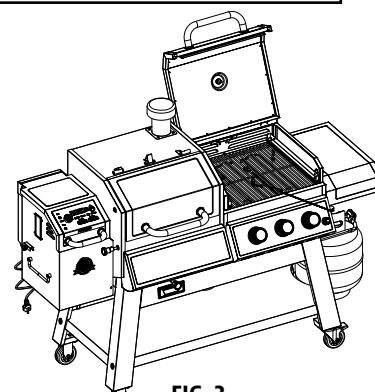

FIG. 3
8. If igniter does not light burner, use a lit match secured with the lighting rod (included with the grill) to light burners. Access the burners through the cooking grid and heat plates. Position lit match near side of burner (Fig. 3).